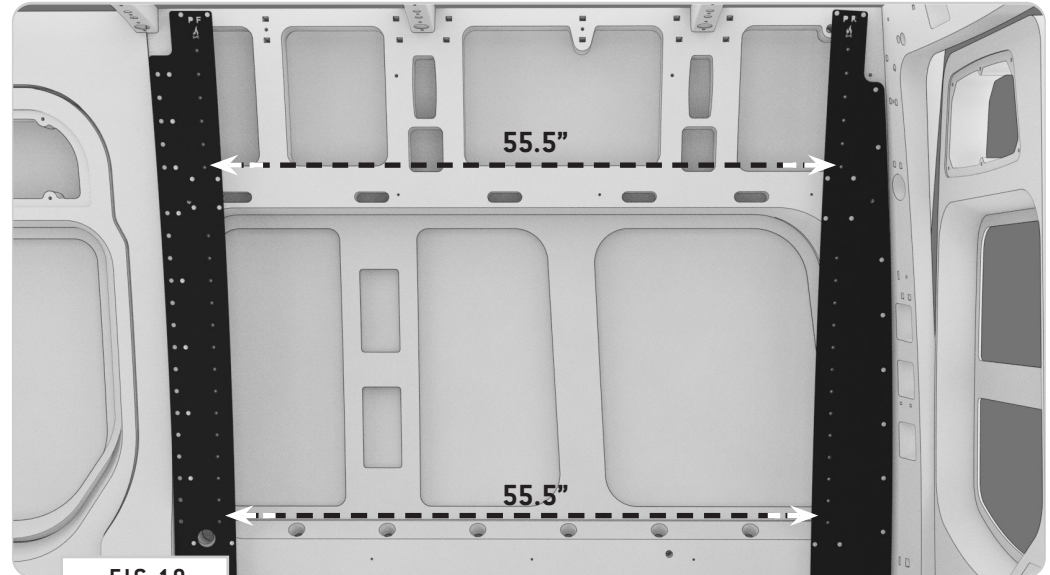

FIG 10
5.1 Measure Bracket Spacing: Once you have the Bed Brackets held in place, you'll need to confirm that the distance between rail mounting points are square at 55.5" slot-to-slot (FIG 10).